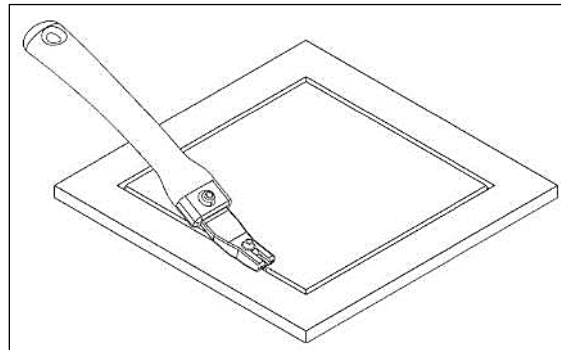

Figure 7. Tool and Gap Alignment
- 3.2.1. Line up the TGB with the gap containing filler to be removed. See **Figure 7**.